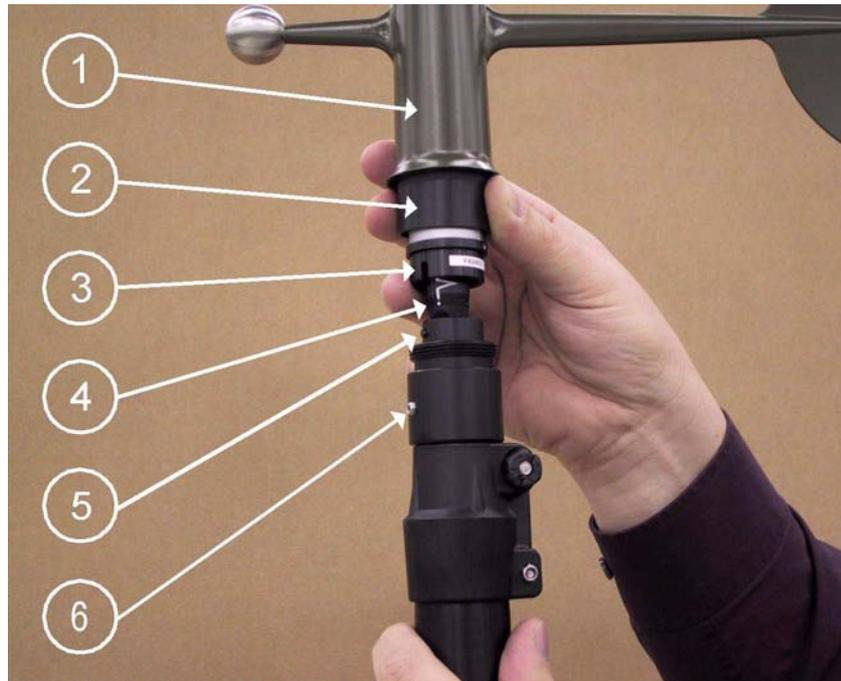

Figure 35 Wind Sensor Attachment
2. For attachment of the wind sensor (number 1 in Figure 35 on page 48), the mounting piece has already been tightened with the small hex screw (6) on the top of the telescopic mast. Guide the wind sensor cable (4) through the telescopic mast (if the cable is not already through the mast) and connect the cable to the sensor. To connect the sensor to the mast, align the slot (3) on the bottom of the sensor with the metal tab (5) on the mounting piece. Fix the sensor into its place by tightening the plastic collar (2). For vane alignment instructions, see section Aligning the Wind Vane on page 54.